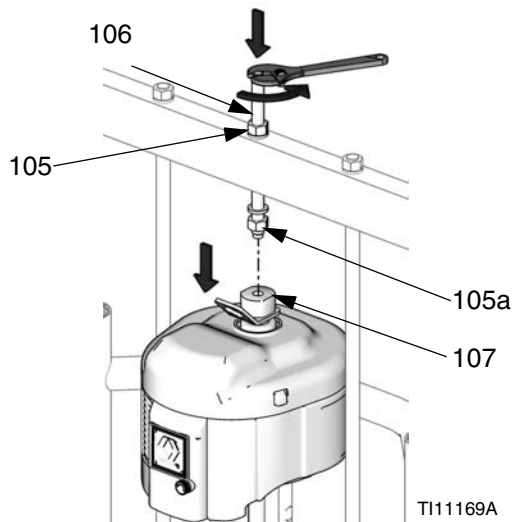

FIG. 23: NXT 2200-6500 with 55 Gallon Platen
- a. For NXT 2200-6500 with 55 gallon platen (D200 3 in. and D200s 6.5 in. supply units): Loosen nut (105a) below crossbar. Use wrench to hold lift ring adapter (107) in place and loosen threaded rod (106) above crossbar with another wrench. See FIG. 23.